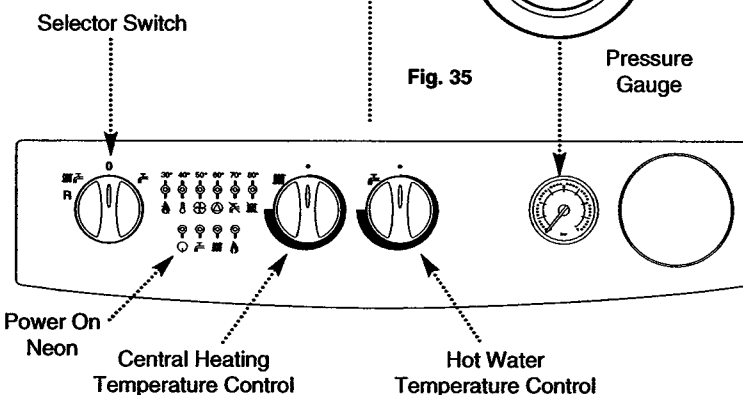

Fig. 36
2. Set the temperature controls to maximum and the selector switch to the Off position (Fig. 36).
6. Turn the selector switch to the Central Heating and Domestic Hot Water position (  ). The power On neon (  ) will illuminate (Fig. 36).